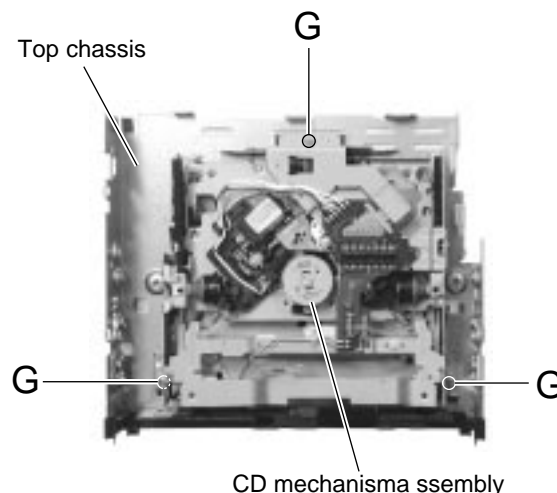

Fig.7
■ Removing the CD mechanism assembly (See Fig.7)